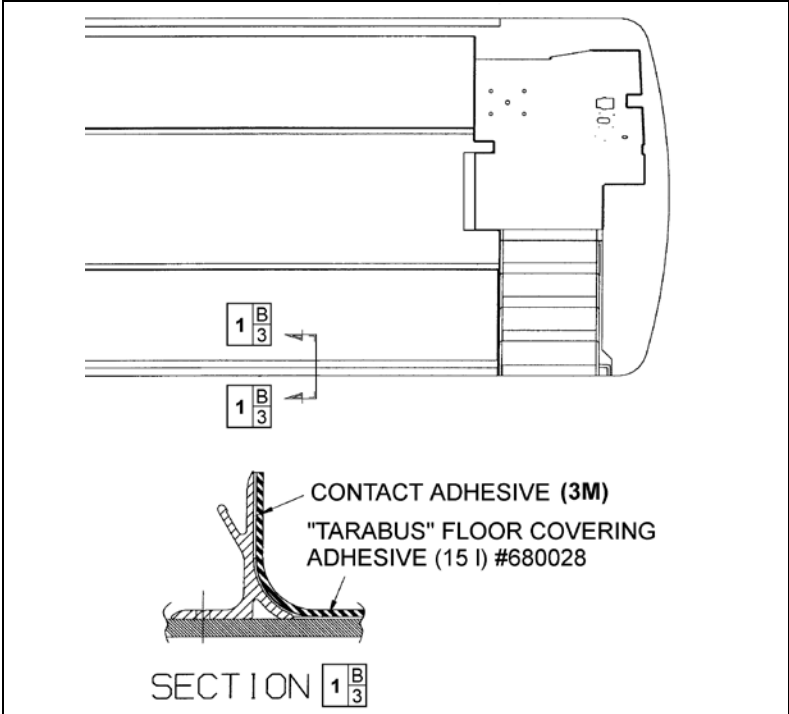

FIGURE 49: TARABUS FLOOR COVERING ADHESIVE APPLICATION 18640
6. Apply floor covering adhesive (680028) onto plywood using a serrated spreader with 1/8-inch serration. If required, apply contact adhesive (3M) (684655 or 684654) onto aluminum molding and also onto section of floor covering, which will be in contact with molding (refer to figure 49).